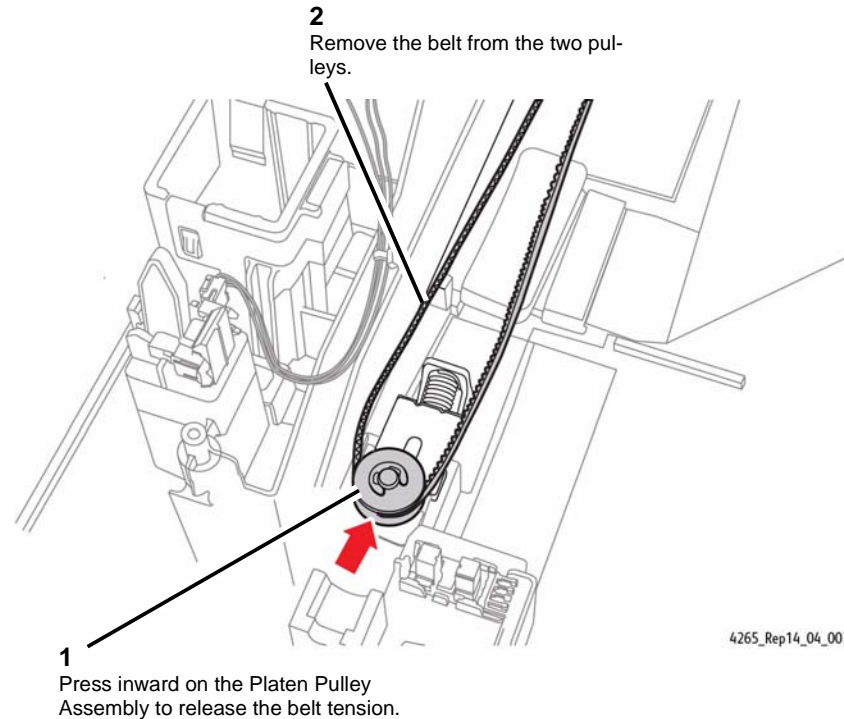

Figure 1 Removing the Long Timing Belt
2. Remove the long timing belt from the Platen Pulley Assembly (Figure 1).